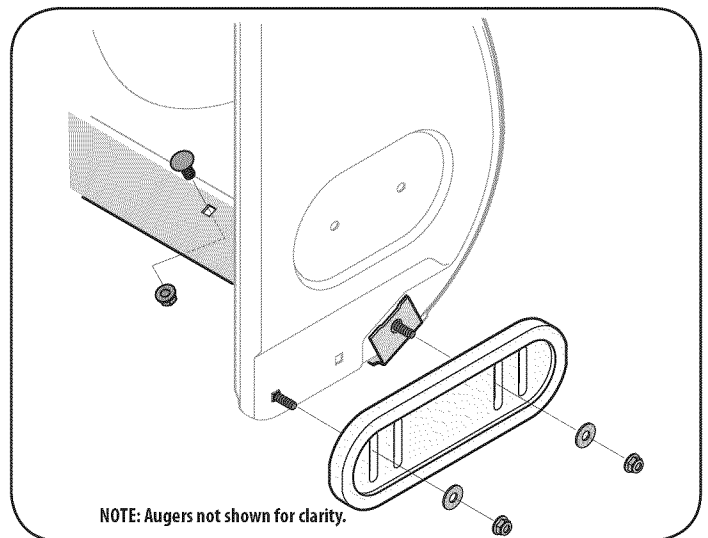

Figure 25
2. Reassemble new skid shoes with the four carriage bolts (two on each side), washers, and hex flange nuts. Refer to Figure 25.
2. Reassemble new shave plate, making sure heads of carriage bolts are to the inside of housing. Tighten securely. See Figure 25.